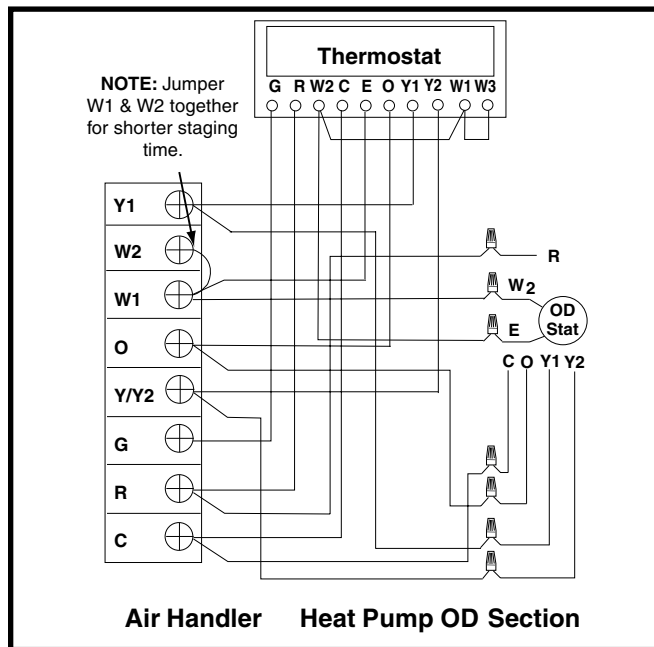

Figure 2. Typical 2 - Stage Heat Pump w/ Optional Outdoor Thermostat and Variable Speed Air Handler
- Thermostat connections should be made in accordance with the instructions supplied with the thermostat and the indoor equipment. A typical installation with a heat pump thermostat and air handler is shown in Figure 2.
The CoreSense™ Diagnostics Module (Figure 2) is a breakthrough innovation for troubleshooting heat pump and air conditioning system failures. The module installs easily in the electrical box of the outdoor unit near the compressor contactor. By using the compressor as a sensor, CoreSense Diagnostics helps the service technician more accurately troubleshoot system and compressor fault conditions.